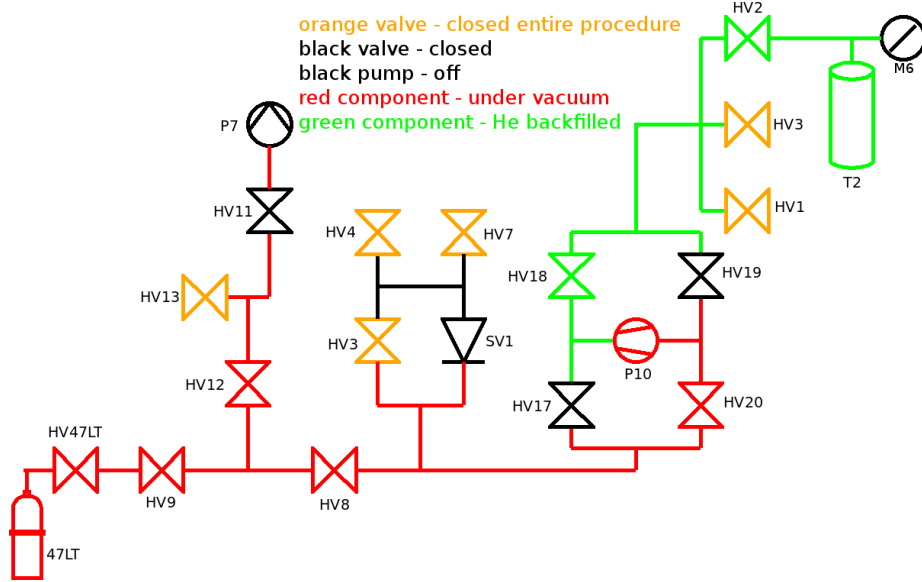

Figure 6: Open HV20 to pump gas out of pressurized cylinder and the rest of the system into T2.
6. Figure 6: slow open HV20 and pump He gas out of 47LT and the rest of the pump system into T2.